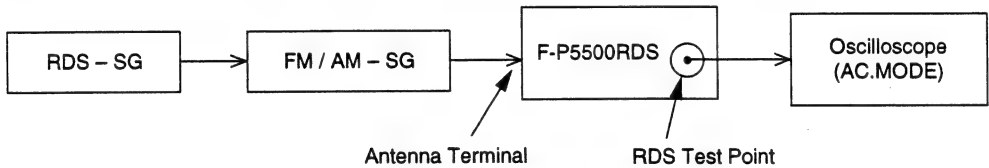

Fig. 1-3 RDS Adjustment Wiring Diagram
- Connect the wiring as shown in Fig. 1-3.